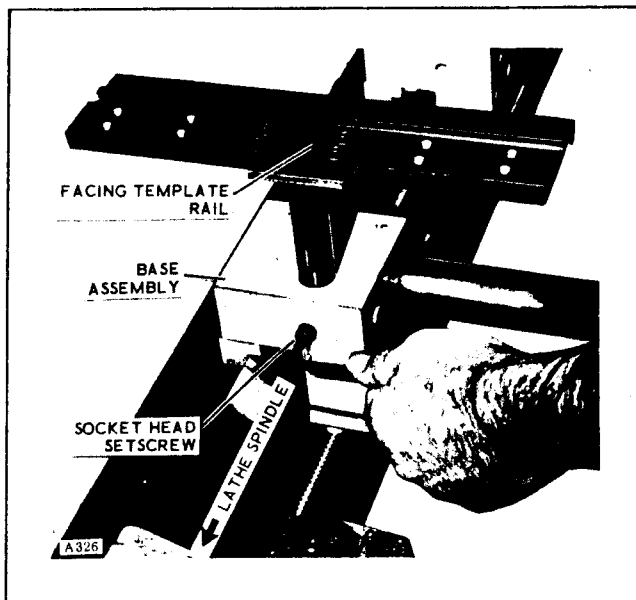

Figure 2-23. Installing Model 3058 Facing Template Rail on Universal Template Rail Assembly. (Mark IIA thru VI Series)
2-27. INSTALLING FACING TEMPLATE RAIL. To install the facing template rail on the Universal Template Rail Assembly, refer to figure 2-23 and proceed as follows:
d. Install the facing template in the base assembly at a 90 degree angle to the lathe bed. The rail should be facing **AWAY** from the lathe spindle. Secure the facing template rail in the base assembly by tightening the socket head setscrew securely as shown in figure 2-23.